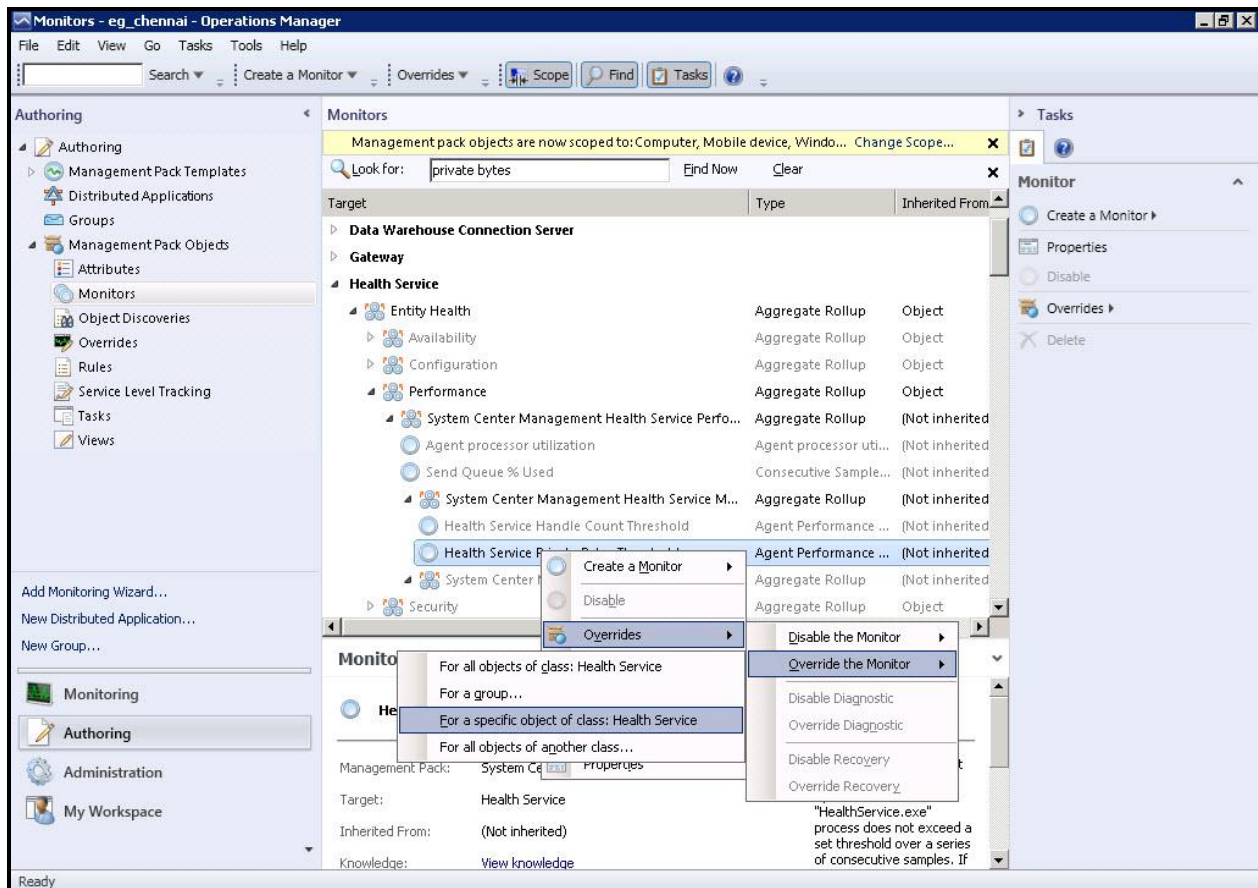

Figure 2.16: Overriding the 'Health Service Private Bytes Threshold' monitor
- First, scroll down the list of monitors to look for the target, **Health Service**. Under the **Performance** category of that target, look for the monitor named, **Health Service Private Bytes Threshold**. Then, right-click on that monitor and follow the menu sequence, *Overrides -> Override the Monitor -> For a specific object of class: Health Service* (see Figure 2.16).
- You will then return to the **Monitors** view of Figure 2.16. Now, from the **Performance** category of the **Health Service** target, right-click on the monitor named **Health Service Handle Count Threshold**, and follow the menu sequence: *Overrides -> Override the Monitor -> For a specific object of class: Health Service*